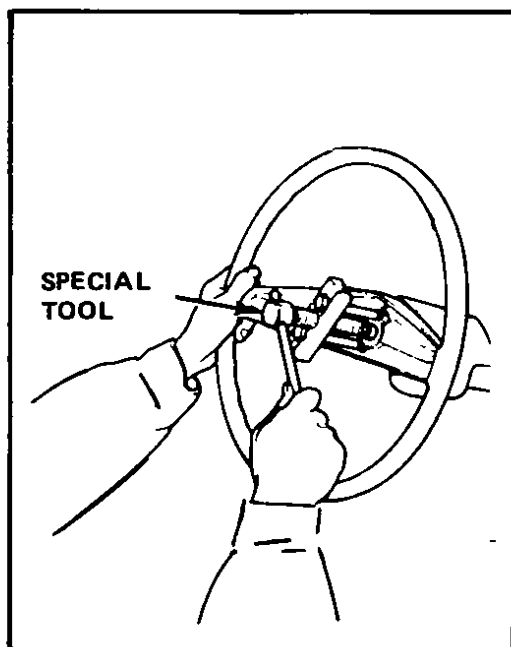

Fig 93 Removing steering wheel
- 4 Using the appropriate tool, remove the steering wheel, Fig 93